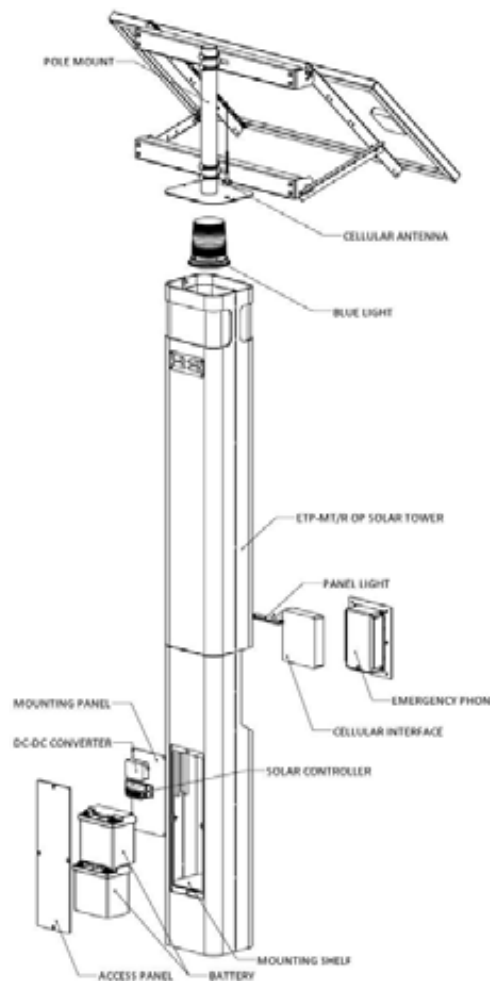

Figure 26. Exploded view of **ETP-MT/R OP SOLAR** configuration
- b. Fasten the LED Blue Light to the base plate on top of the pole with three (3) tamperproof screws. Feed the power cord and control wires through the pole mount and the enclosure mount.
4. For **ETP-MT/R OP SOLAR** (Refer to **Figure 26**),